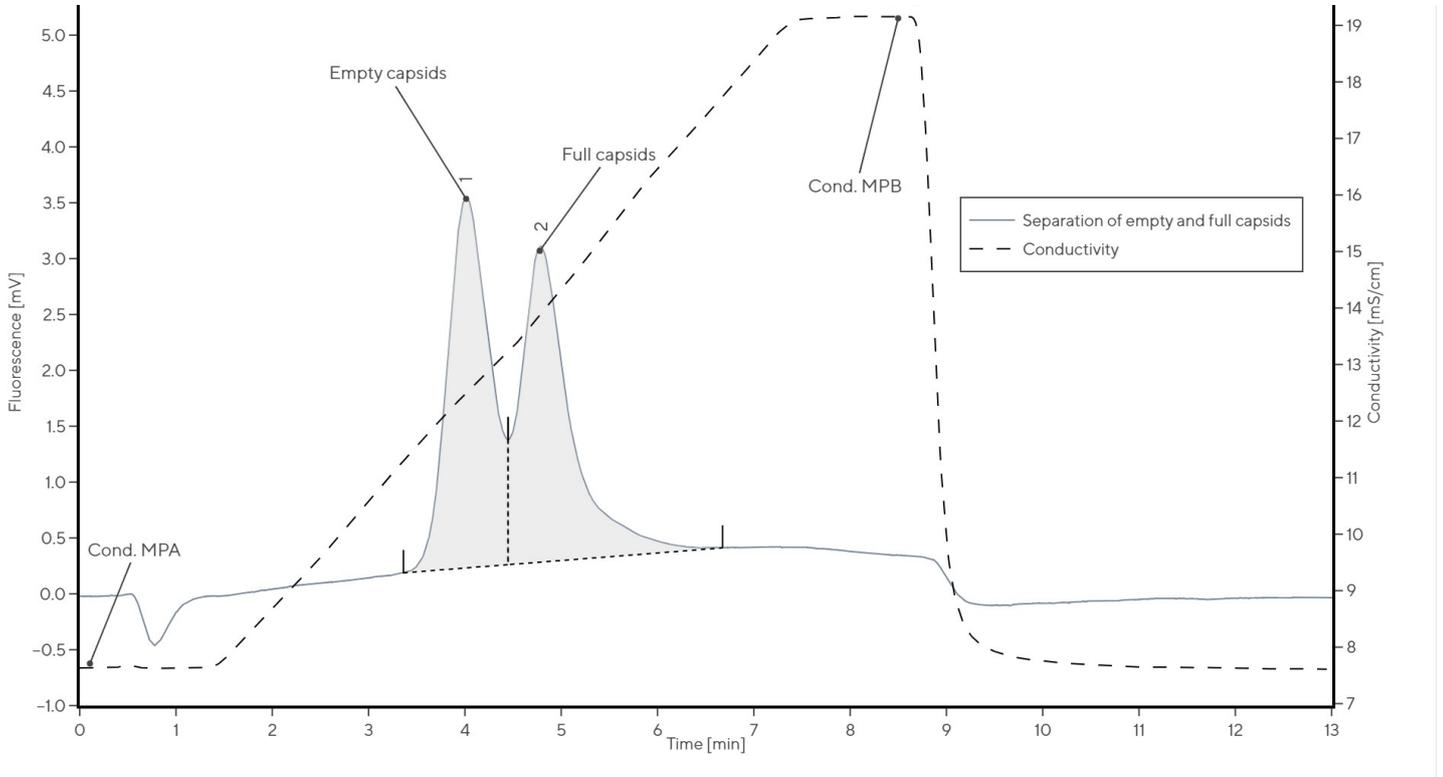

Figure 4: Example chromatogram of empty/full AAV2/8 separation on Specimen QA HR with indicated peak integration.
Continue with AAV sample injection and run the test procedure again according to the test method described in Table 6. Observe and record the signal from the system. Note the retention time (t_r) at the maximum of the empty and full capsids peak. Note the conductivity of mobile phase A (MPA) and mobile phase B (MPB) at the beginning and at the end of gradient (see marks on the reference chromatogram on Figure 4). Note or calculate the resolution (R) between eluted peaks.